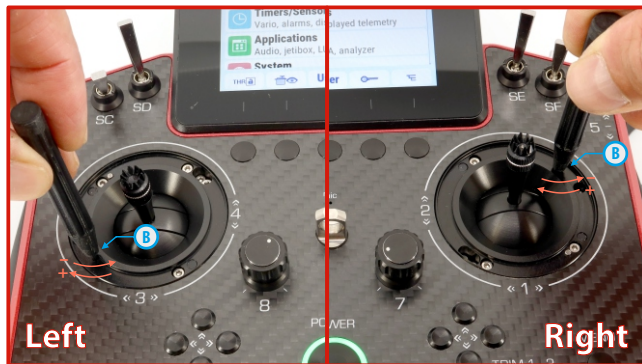

Fig. 6.08
- Turning the screw clockwise increases the force of the spring, resulting in greater resistance when moving the cross controller in this axis (see Fig. 6.08).
- Turning the screw counterclockwise decreases the force of the spring, resulting in less resistance when moving the cross controller in this axis (see Fig. 6.08).